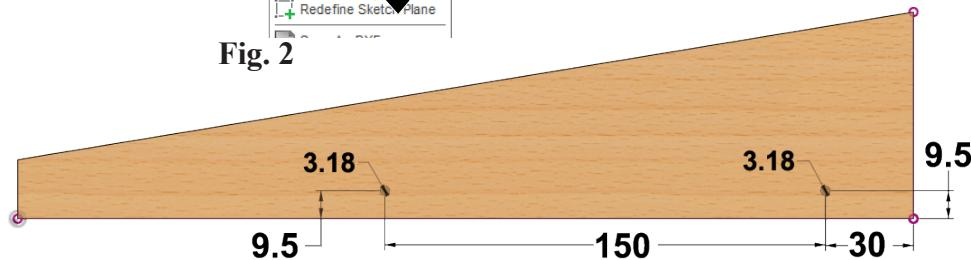

**Fig. 2**
- Step 1. Expand Sketches in the Browser, right click **Sketch4** and click **Edit Sketch** , **Fig. 2**.